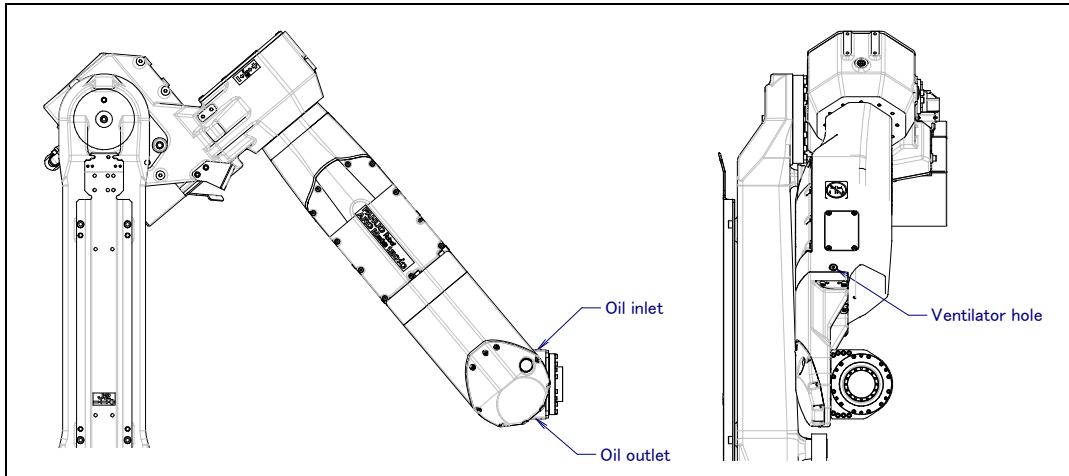

Fig.7.2.3.3 (a) Oil adapter (supply oil J5/J6-axis gearbox) (ARC Mate 120iC, M-20iA)
- 3 Put the oil pan under the oil outlet. Remove extra low bolt and seal washer of oil outlet, then remove oil inlet and ventilator hole. (See Fig.7.2.3.3 (a)) (In this time, if you remove bolt of oil outlet firstly, you can prevent spilling oil on surroundings.)